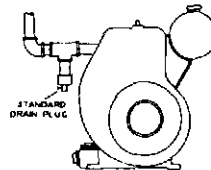

Figure 1 Condensation Trap
5. **EXHAUST.** Exhaust gases from gasoline engines are extremely poisonous. Whenever an engine is installed indoors the exhaust fumes must be vented to the outside. The engine should be installed at least two feet from any outside wall and the exhaust recommendations given in Figure 1 should be followed. Using an exhaust pipe which is too long or too small can cause excessive back pressure which will cause the engine to heat excessively and possibly burn the valves.
If the exhaust pipe rises above the engine, a condensation trap should be in to prevent moisture from running into the engine which might result in serious damage. This is easily accomplished by installing an ordinary pipe "T" in the exhaust pipe. At the lowest point of the "T", install a short length of pipe to point downward and provide it with a drain plug to permit the accumulated moisture to be drained out. (See Figure 1) Drain this trap at regular intervals to prevent the trap from becoming full and overflowing into the engine. Support the exhaust pipe two feet from the exhaust opening in the cylinder, as any length of pipe over this amount, if not supported, may break the cylinder casting.